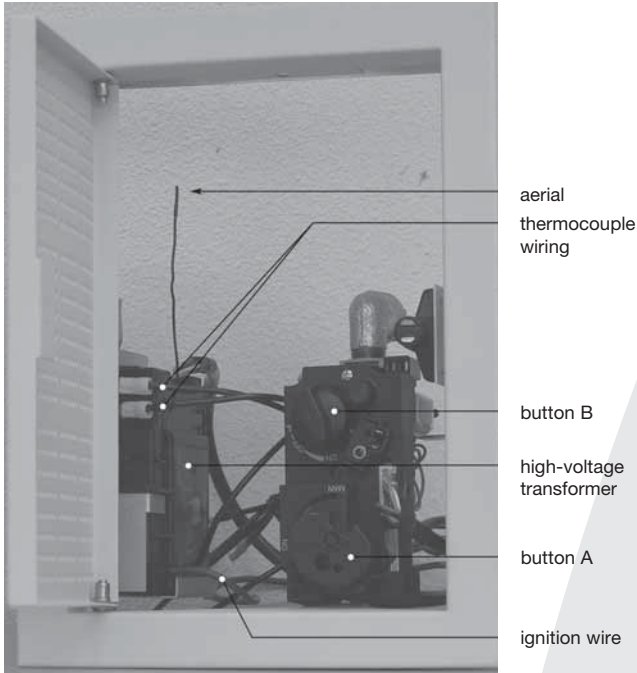

fig. 23
- Place the receiver in the control box, as indicated on fig. 23.
**!Caution** Do not place the antenna too close to the ignition cable and/or metal parts (for the correct position, see fig. 23);
The receiver is located in the control box (see fig. 23).
- Place the receiver as indicated in fig. 23
- Do not place the antenna too close to the ignition cable and/or metal parts: make sure the antenna is pointing upwards (for the correct position, see fig. 23).